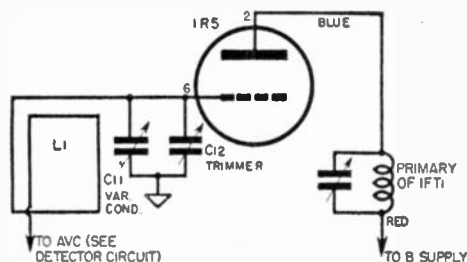

Fig. 8-10. Mixer circuit.
g) *Mixer Circuit.* See Figure 8-10.